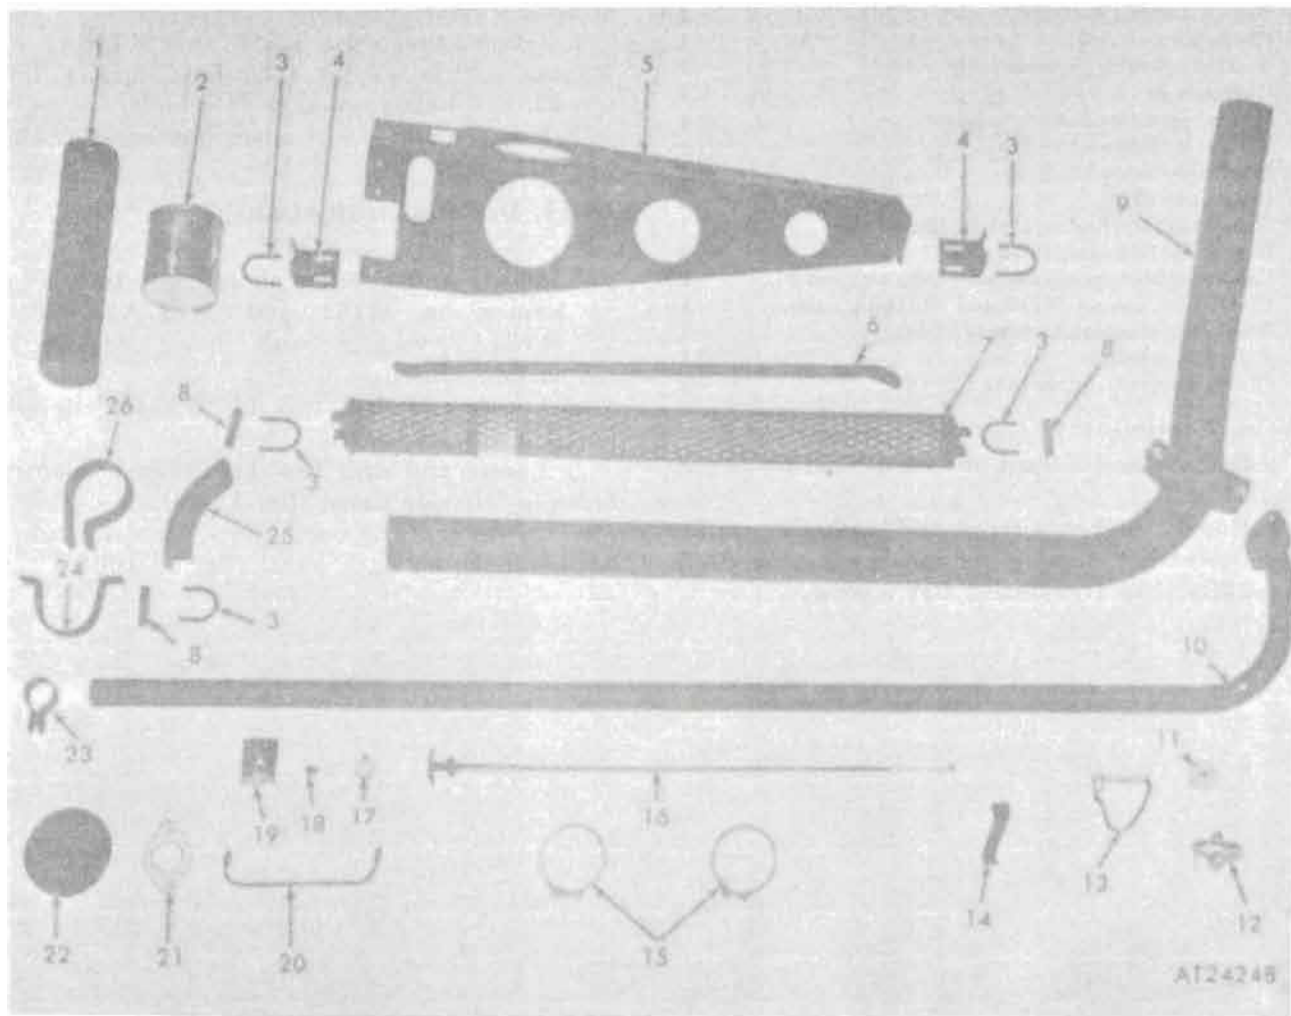

Figure 18-93. Deep water fording kit, major parts.
b. *Kit Contents.* Refer to figure 18-93.
Key to figure 18-93.